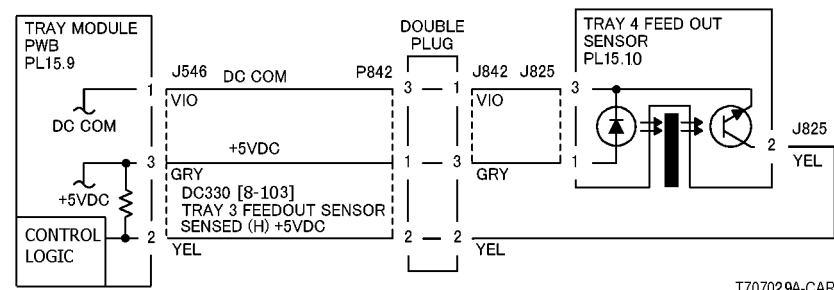
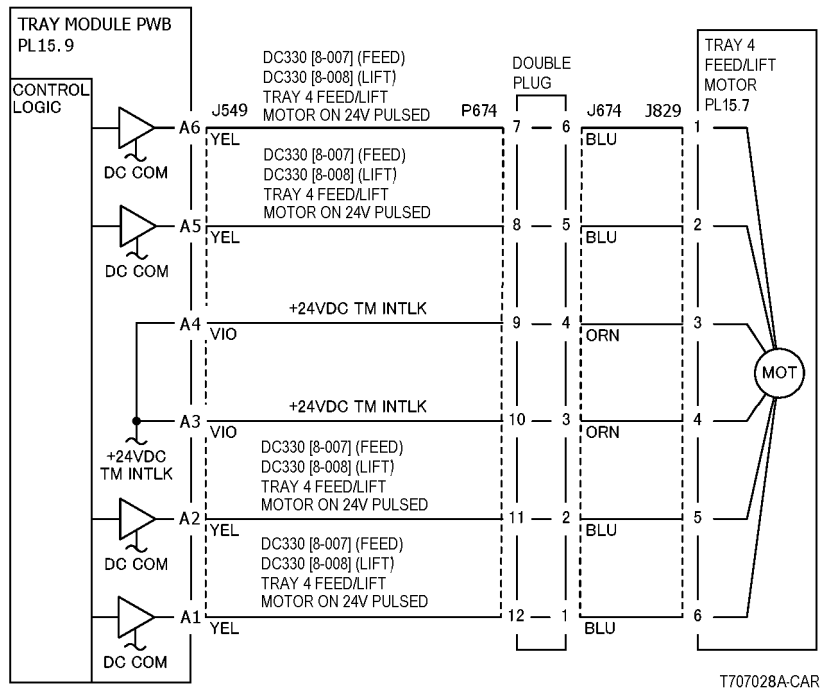
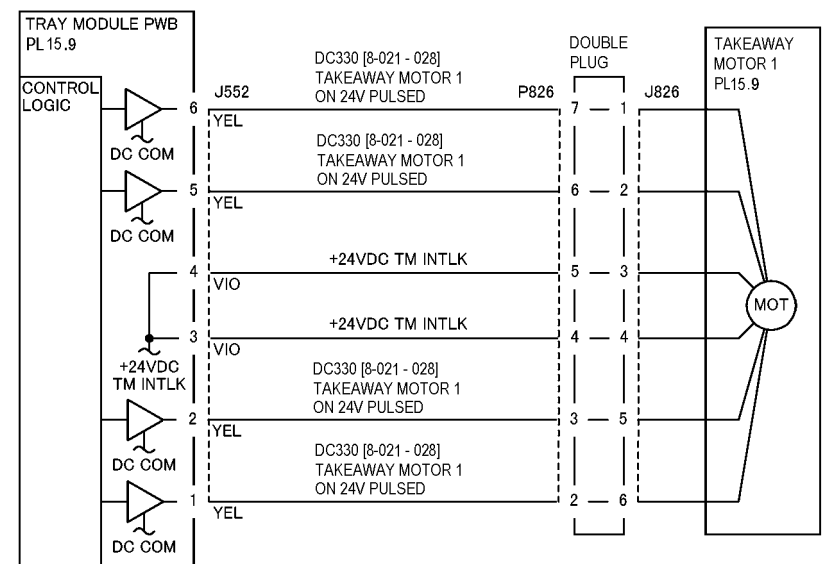

Figure 1 7-120 RAP Circuit Diagram - Tray 4 Feed Out Sensor (3TM)
Figure 2 7-120 RAP Circuit Diagram - Tray 4 Feed/Lift Motor (3TM)
Figure 3 7-120 RAP Circuit Diagram - Takeaway Motor 1 (3TM)
- Ensure that the connectors shown in the circuit diagrams (Figure 1, Figure 2, Figure 3) are securely connected and that wires are not damaged.